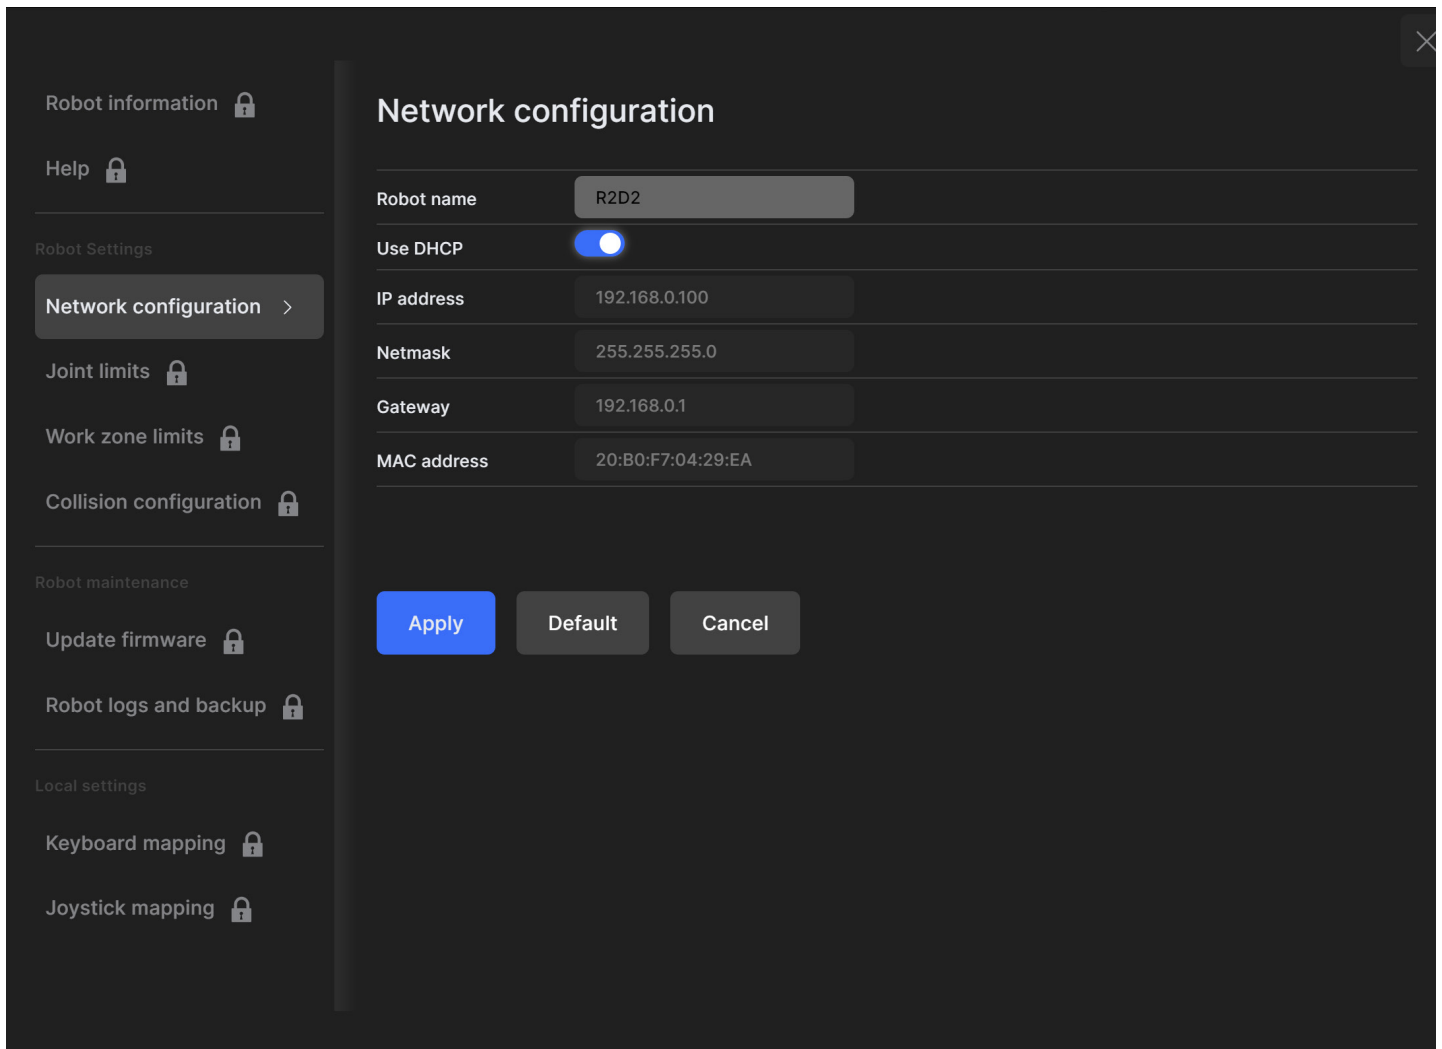

Figure 15: Changing the robot's network configuration
2. Depending on your configuration, activate the toggle DHCP to automatically receive an address from your router or leave untoggled to force a specific IP. You don't need to reboot the robot; the new configuration will be applied as soon as you click on the Apply button (Figure 15).